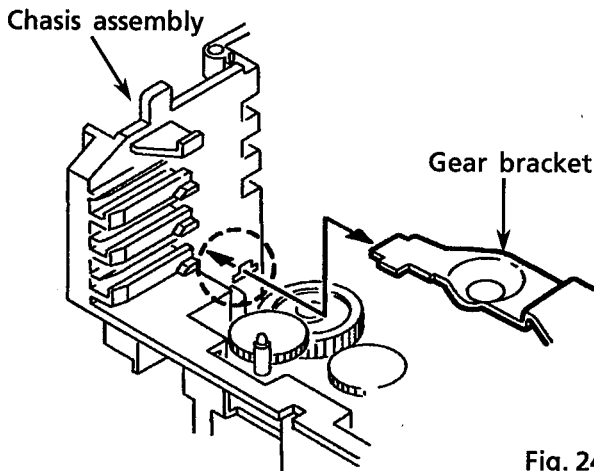

Fig. 24
3. Remove the gear bracket from the chassis ass'y's ㊟ securing top of the gear bracket. (See Fig. 24.)